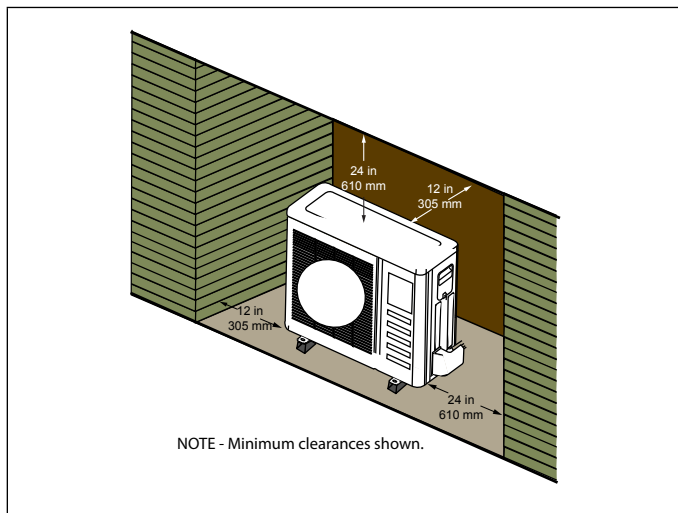

Figure 21. Unit installed in Alcove
- a roof overhang as illustrated in “Figure 21. Unit installed in Alcove”